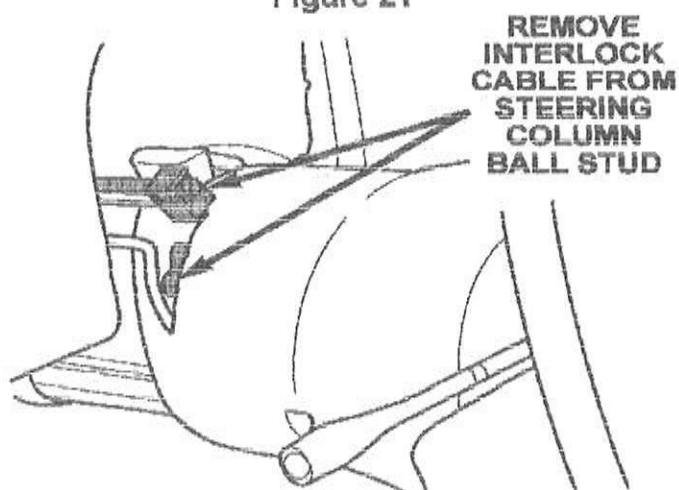

Figure 22
13. Disconnect the ignition interlock cable from the steering column ball stud (Figure 22).